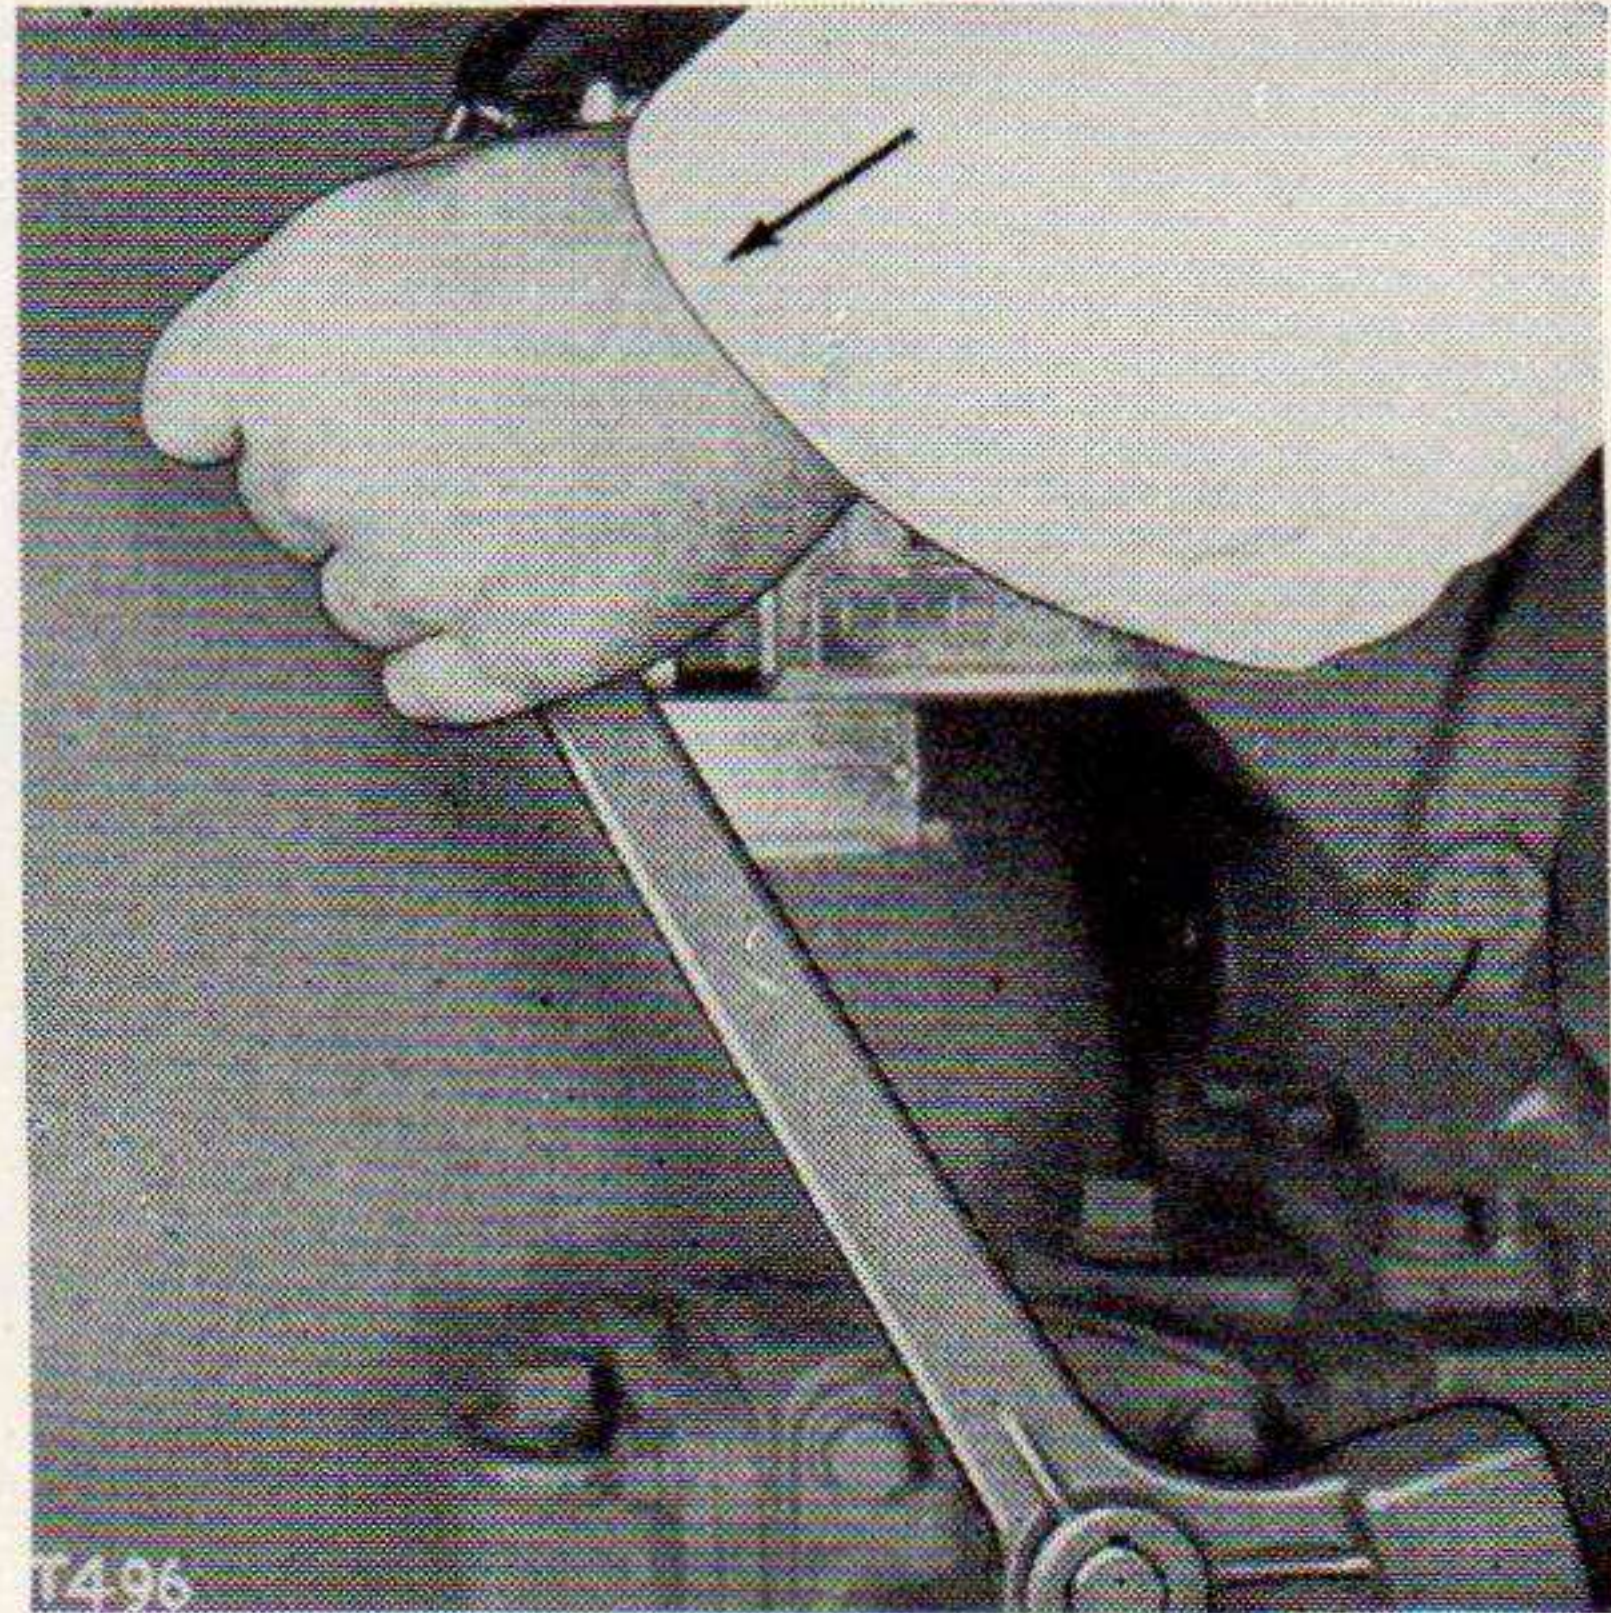

Figure 22. Engaging clutch.
- (3) Engage the starting engine clutch. (See fig. 22.)